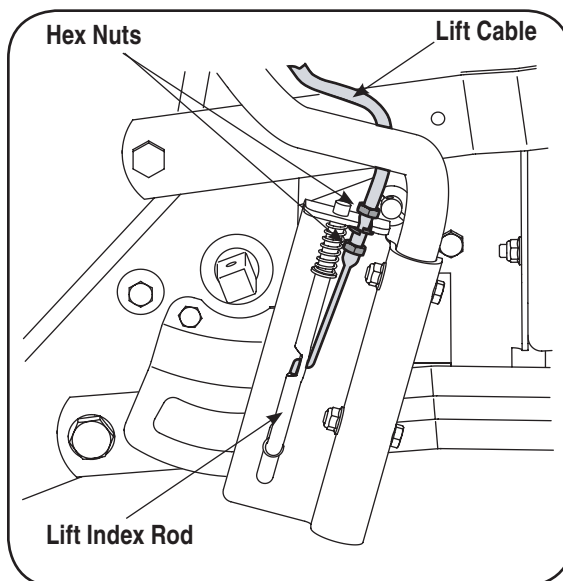

Figure 11-1
1. Loosen the upper hex nut a few turns, then tighten the lower hex nut to shorten the cable length. See Figure 11-1.
2. Loosen the lower hex nut a few turns, then tighten the upper hex nut to lengthen the cable. See Figure 11-1.